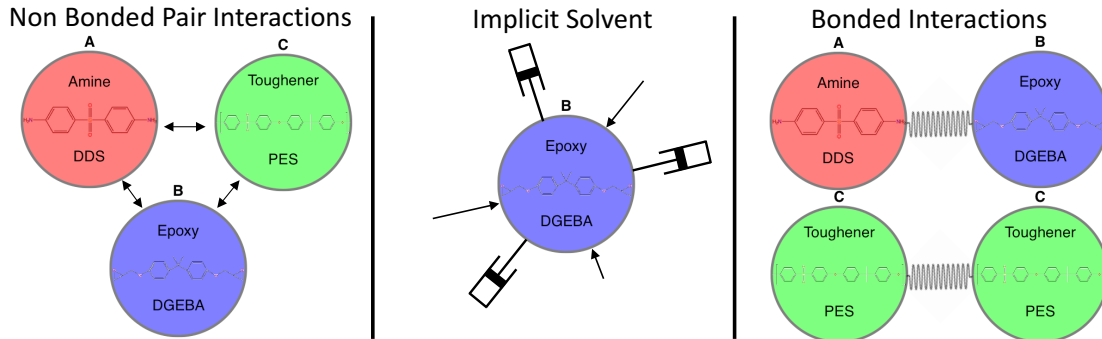

Figure 2.5: Three types of interactions are considered for the coarse-grained beads in this work.
one monomer. Hence the CGMD model in this work considers a single “bead” to represent a monomer units that typically consist of about 20 atoms. Three types of interactions experienced by these beads at the nanometer scale are considered in this work, the non-bonded interactions which capture the van der Waals interactions, the bonded-interactions which capture the covalently bonded interactions and the implicit solvent interactions which capture the interactions of these beads with the environment which include random forces and dissipative forces, shown as arrows and dashpots in Figure 2.5.
The equation states that the acceleration experienced by particle  $i$  depends on the conservative forces ( $F_i^c$ ) acting on it which is given by the negative gradient of the potential energy (U) which is a function of all the particle positions  $\mathbf{x}^N$ . While considering implicit solvent methods such the non-conservative forces are superimposed on the conservative forces ( $F^c$ ). In the absence of non-conservative forces, solving the MD equations of motion is equivalent to sampling configurations in the microcanonical ensemble (NVE) where the number of particles (N), volume (V) and energy (E) is kept constant while allowing temperature and pressure to vary. In order to compare simulations to experiments, it is desirable to sample the system in other thermodynamic ensembles such as the canonical ensemble (NVT) which considers constant temperature or the isothermal-isobaric ensemble (NPT) which considers constant pressure and temperature. These additional ensembles are sampled by modifying the traditional MD equations of motion and extending it to include terms for thermostats and barostats. The Langevin equation of motion used in this work is such a modified MD equation (Equation 2.5) where  $F_i^C$ , the conservative force is obtained as the derivative of the LJ potential energy function,  $F_i^R$  and  $F_i^D$ , the random and dissipative forces simulates the temperature and viscous forces imparted by the implicit solvent (Figure 2.5).